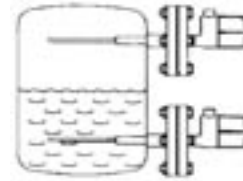

FIGURE 6
**Optional configuration** is a raised face ANSI flange. See catalog 1100 for selection. (See Figures 6 and 7.)